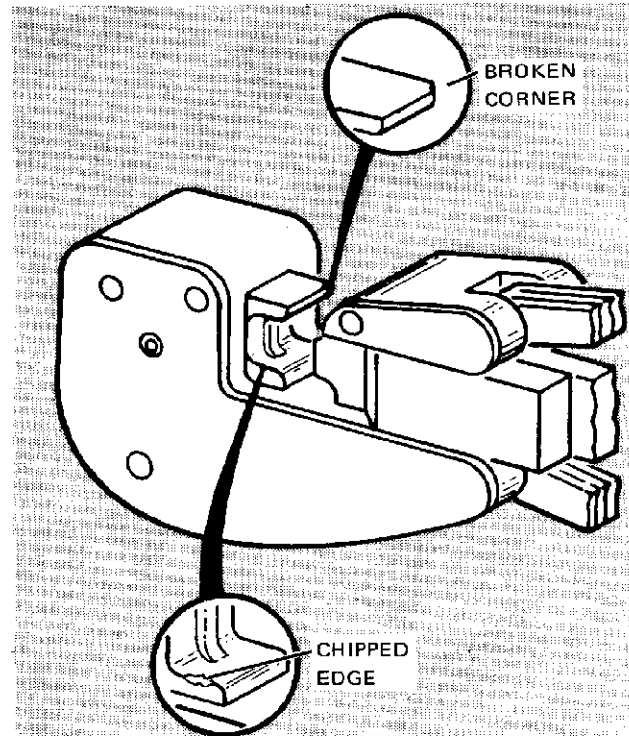

Figure 6
- Visually inspect the die closure surfaces for flattened, broken or chipped conditions. Although dies may gage within permissible limits, damaged die closure surfaces are objectionable and can affect the quality of the crimp. Examples of possible damaged die closure surfaces are shown in Figure 6.